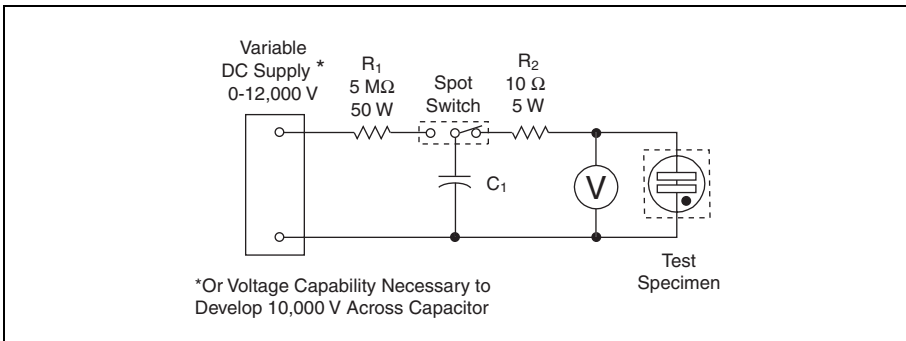

Figure 4.13 UL 497B Discharge Test
4. Discharge Test — Protectors must comply with strike voltage requirements after being subjected to five successive discharges from a 2 μ F capacitor charged to 1000 V dc. (Figure 4.13)
voltage after being subjected to 500 discharges from a 0.001 μF capacitor charged to 10,000 V dc. The discharges are applied in five-second intervals between one side of the protector and Ground. Upon completion of the discharge tests, protectors are once again required to meet the strike voltage requirement. (Figure 4.13)